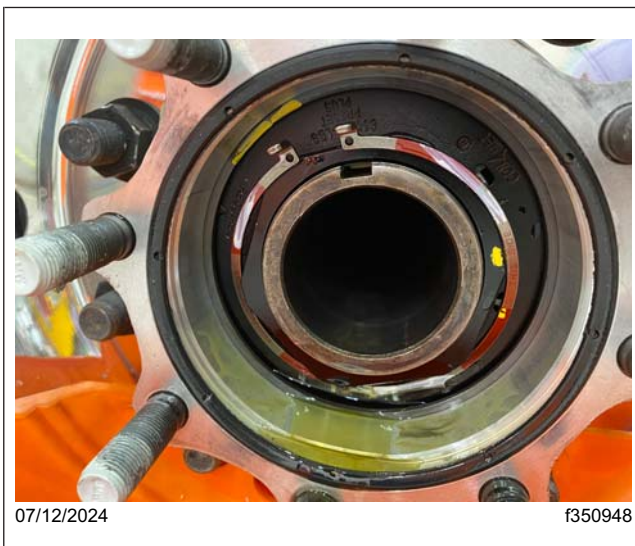
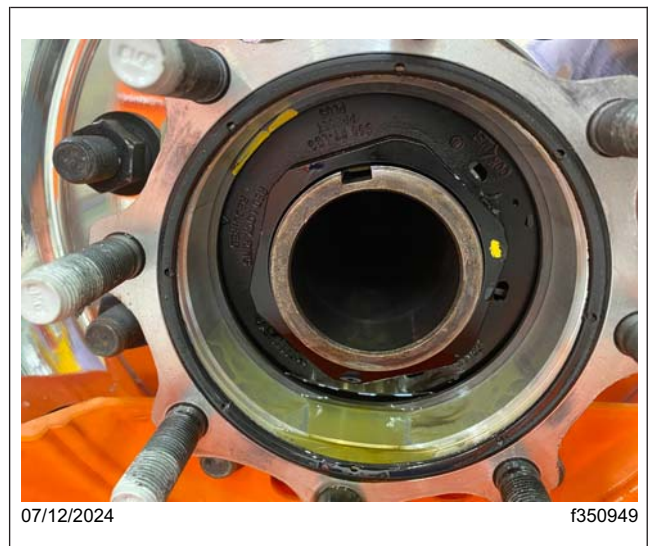

Fig. 6, Incorrectly Installed Locking Snap Ring
Fig. 7, Missing Locking Snap Ring
8. Inspect the locking snap ring to ensure the tab is fully inserted in the locking slots in the integrated spindle nut. **Figure 6** and **Fig. 7** shows an incorrectly installed and missing locking snap ring. **Figure 8** and **Fig. 9** shows correctly installed locking snap rings.